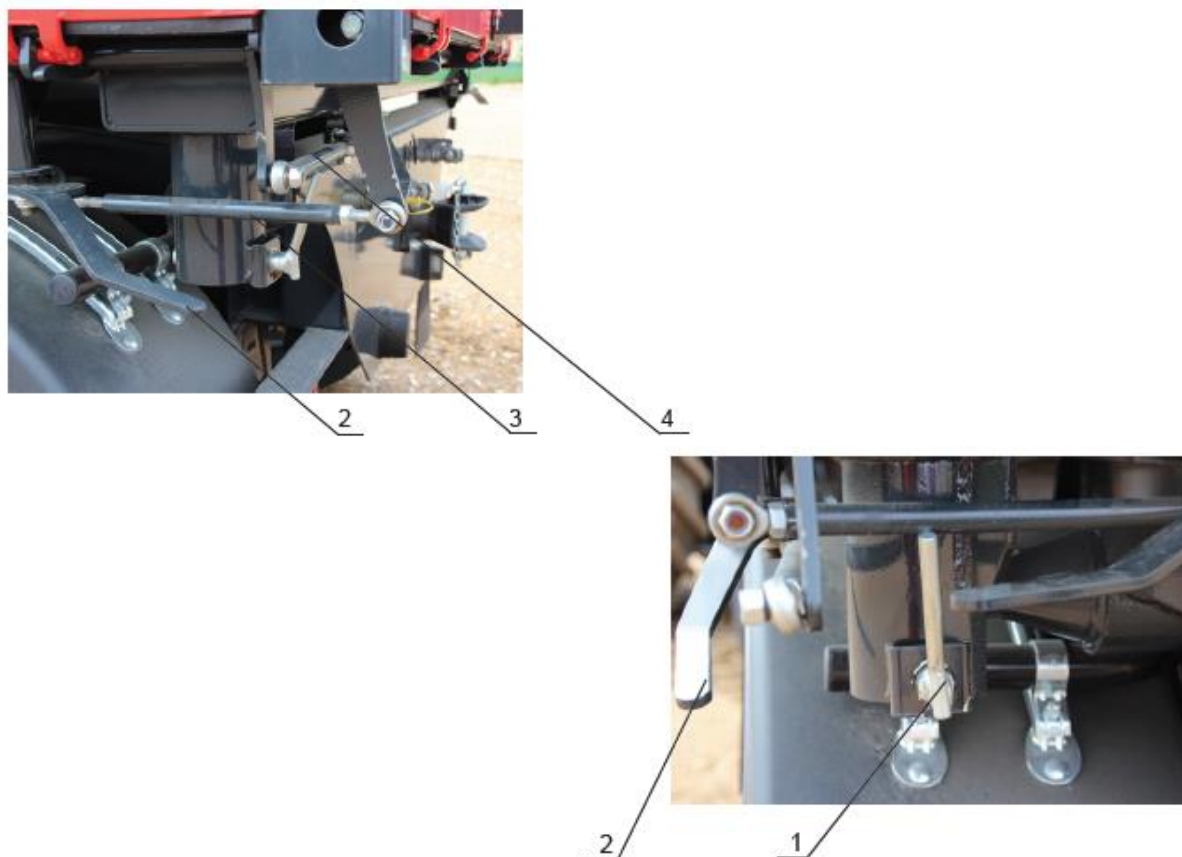

Figure 8. The locks on the sideboards of the load-carrying body.
- Remove the pin connecting the load-carrying body to the chassis frame from the opening (Fig. 8)
- a) when unloading to the rear – the pins (fig.8) shall remain in the rear sockets of the body;